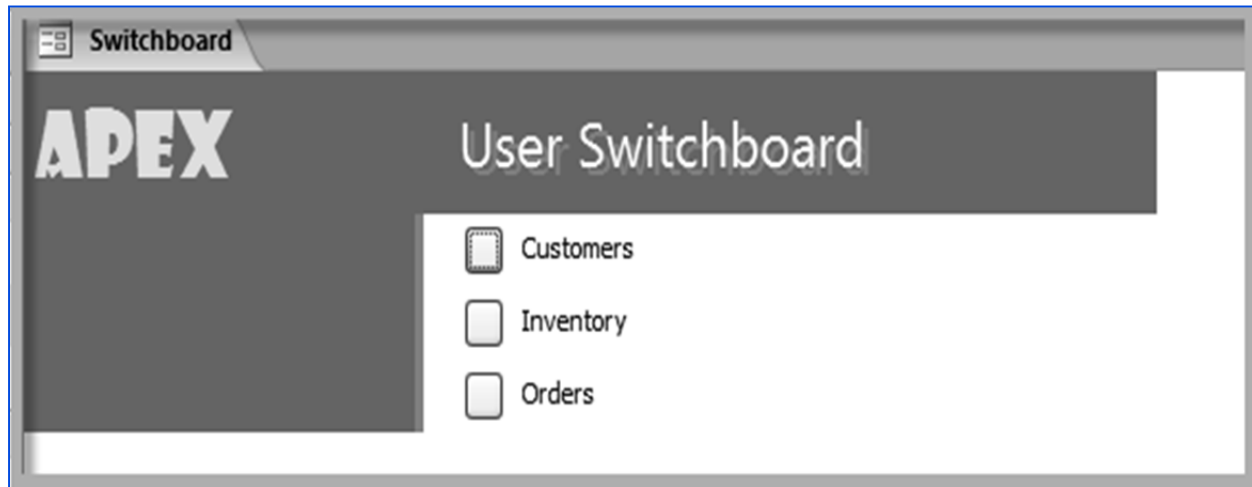

Fig. 4.3.22: Switchboard Form
3. Save the *Switchboard* form and open it in the *Form* view to view the changes made. The *Switchboard* form appears, as shown in Fig. 4.3.22.